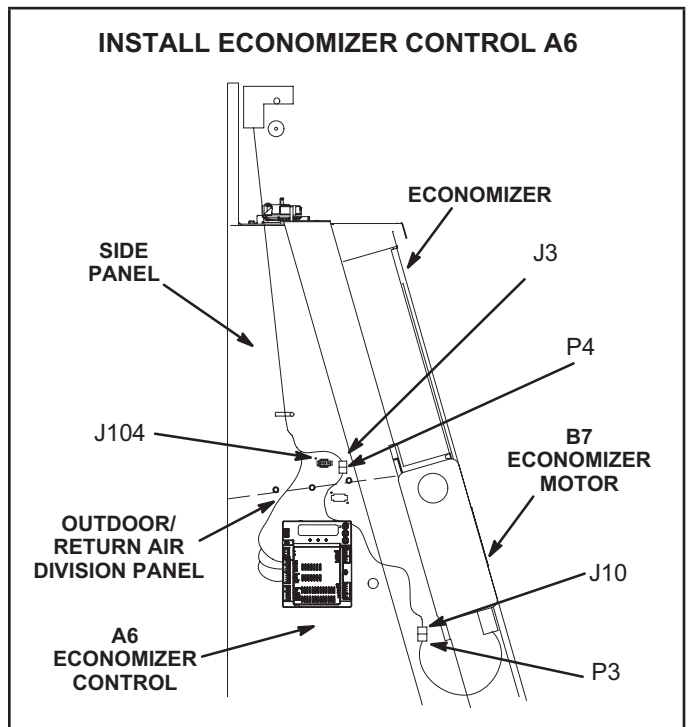

FIGURE 25
- 1 - Install A6 economizer control on economizer side panel as shown in figure 25. Secure with #6-32 X 7/8" TFS screws provided.
- 1 - Locate 15-pin J3 unit control harness hanging on left side of filter compartment. See figure 25. Disconnect P3 jumper plug from J3 and retain jumper plug for future troubleshooting.
- 2 - Connect the 15-pin male plug P4 from the economizer control (A6) harness to the 15-pin female jack J3 on the unit control harness. See figure 25.
- 3 - Locate brown and yellow kit harness with wires labeled J104-1 & J104-2 on one end and A6-OAT, A6-COM, & A6-AUX-A1 on the other end. Insert the connector with wires labeled J104-1 & 2 into the opening on economizer side panel and snap into place. See figure 25.
- 4 - Connect the 15-pin female plug J10 to the 15-pin male plug P3 from the damper motor. See figure 25.